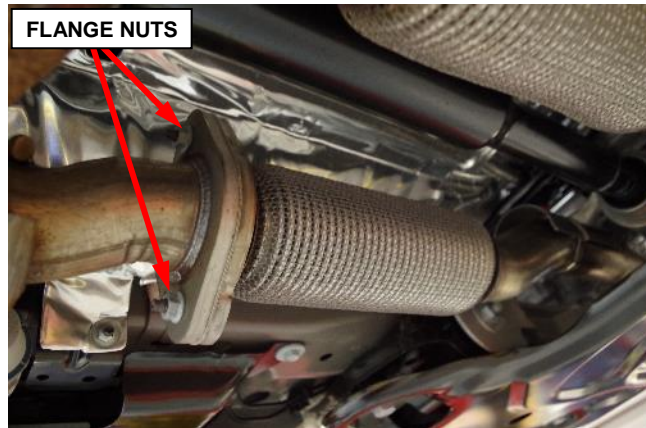

Figure 57 – Exhaust Crossunder Pipe
a. Remove and **DISCARD** the rear crossunder pipe flange nuts securing the crossunder pipe to the Y-pipe (Figure 57).